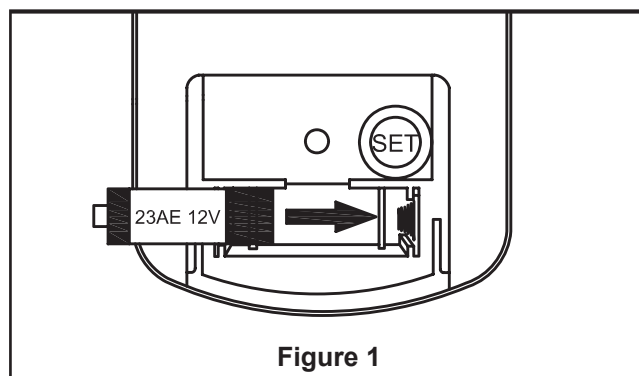

Figure 1
1. To make fan operational, install 23A/12V battery (included) in hand-held remote transmitter, with fan power off. Then follow the remote code setting process. (If not used for long periods of time, remove battery to prevent damage to transmitter). Store the remote away from excessive heat or humidity. (Figure 1)